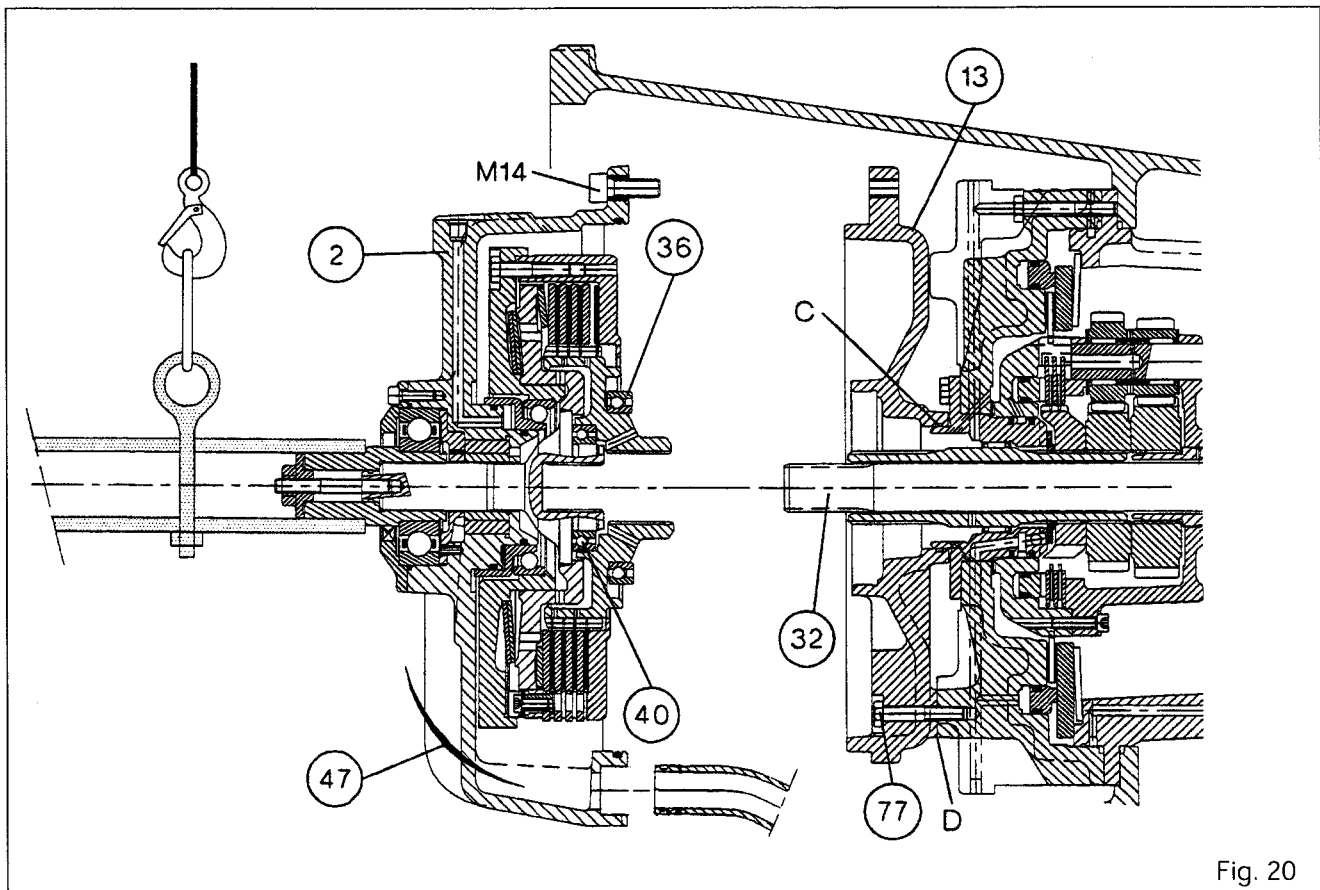

Fig. 20
G. Speedshift version (Fig. 20)